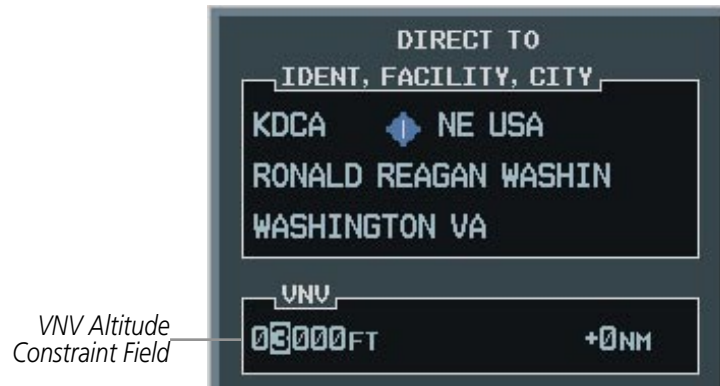

Figure 5-24 Entering a Direct-to Altitude Constraint
- 5) Turn the large **FMS** Knob to place the cursor over the ‘VNV’ altitude field (Figure 5-24).